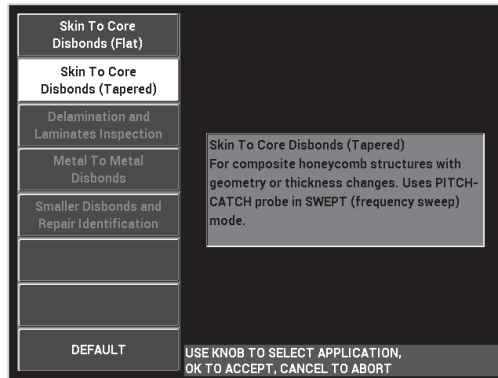

Figure 6-56 The Skin To Core Disbonds (Tapered) application
3. Select the **Skin To Core Disbonds (Tapered)** application, and then press ✓ to accept (see Figure 6-56 on page 170).